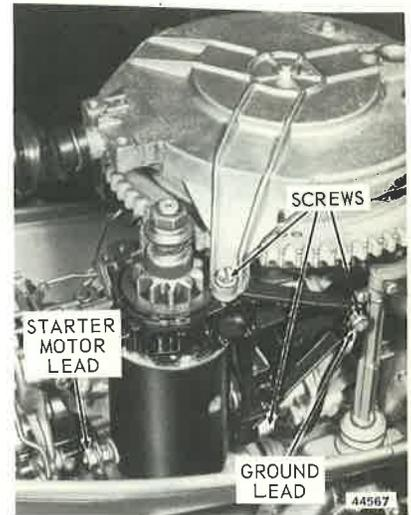

Figure 7-7. Starter
- b. Remove four cap screws attaching starter bracket and mounting bracket to motor. See Figure 7-7. Lift starter and bracket off bracket studs.